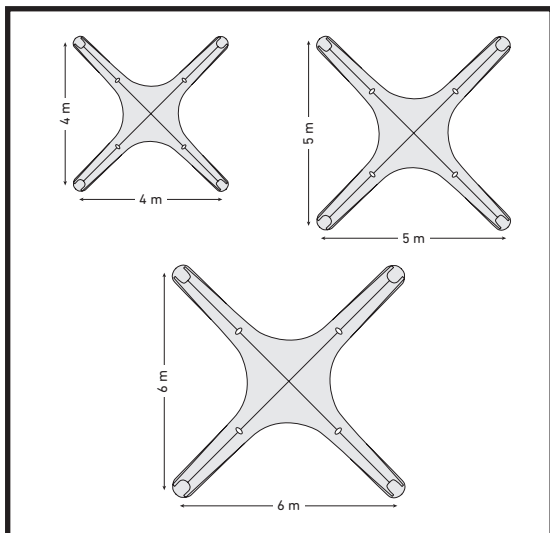

Fig. 1
1. Choose a flat even spot where you want to pitch the tent. Make sure the spot is big enough to do it (check the dimensions given in a corresponding picture) (Fig. 1).